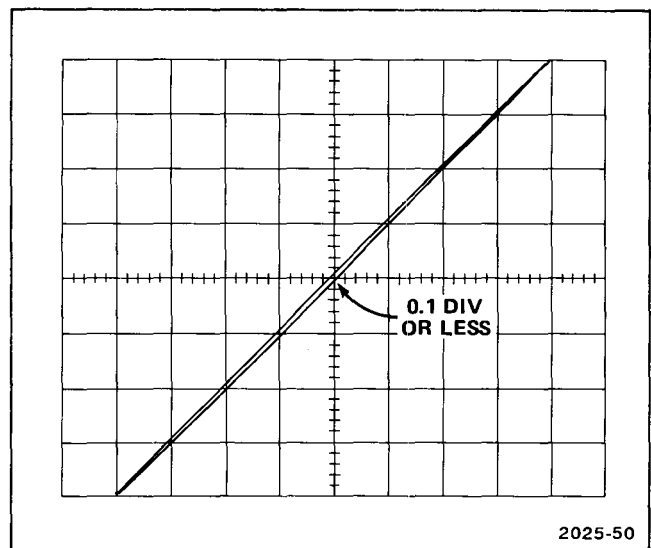

Figure 6-7. Typical horizontal and vertical phase difference display.
b. Position the display as shown in Figure 6-7.
c. **CHECK**—That the diameter of the displayed ellipse, measured vertically at the center of the graticule, is 0.1 division or less (see Fig. 6-7).